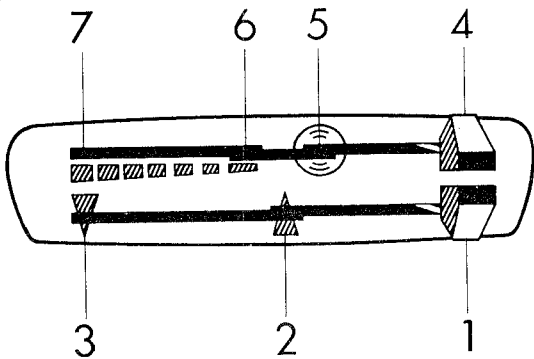
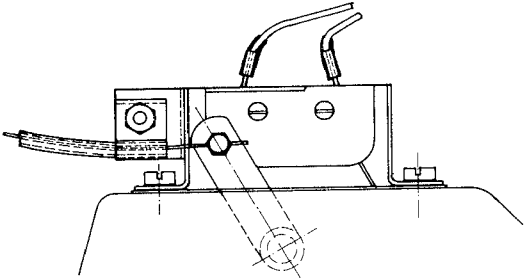

Fig. 15
Fig. 16
19. Move heater control lever in control assembly to Position 4 (see Fig. 15). Move control lever on heater control switch to the "AUS" ("OFF") position and fasten Bowden cable to the arm with the terminal screw (see Fig. 16).